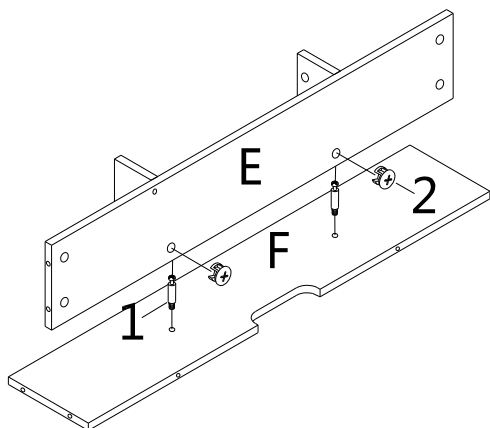

Figure 3
Insert Cam Locks (2) into predrilled holes on Upper Shelf Panel (E) as shown in Figure 3.
Attach Upper Side Panels (C) to unit from Figure 3 by inserting Cam Bolts (1) into corresponding holes until components meet.